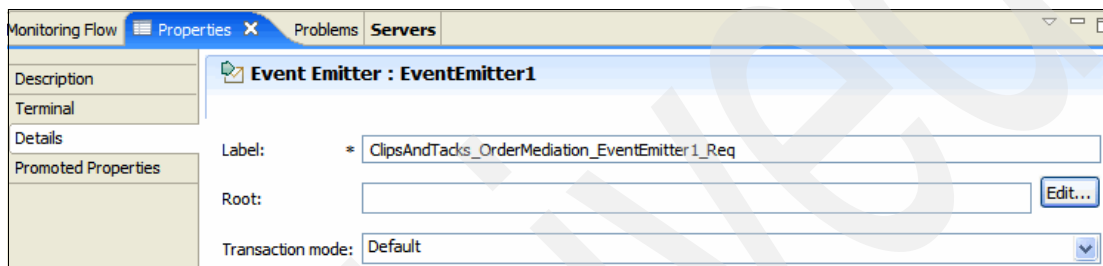

Figure 6-90 Event Emitter properties
2. Click the **Properties** tab and the **Details** subtab (Figure 6-90). Click **Edit**.